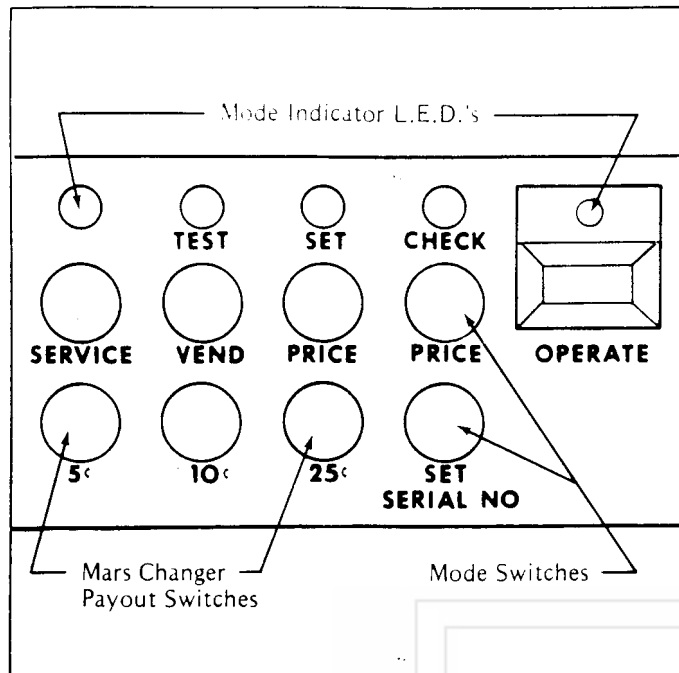
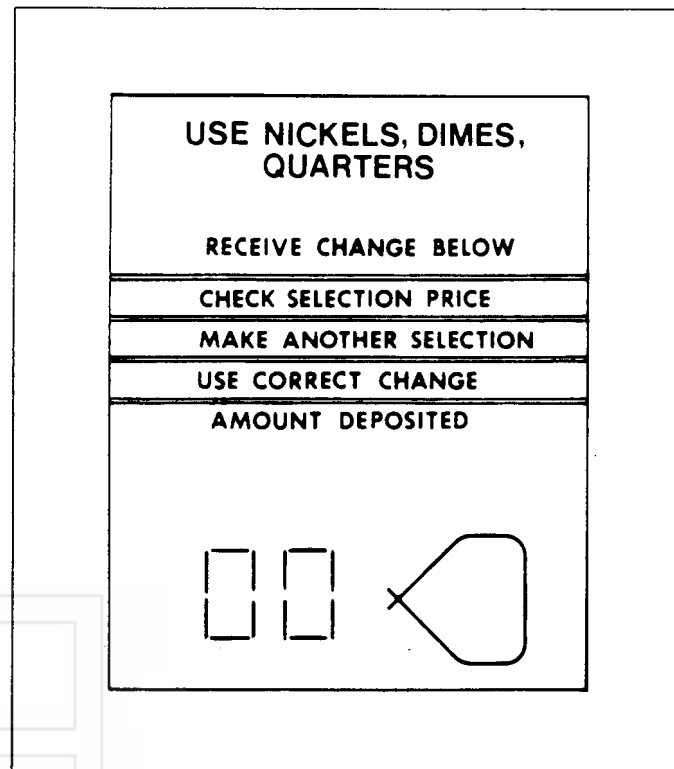
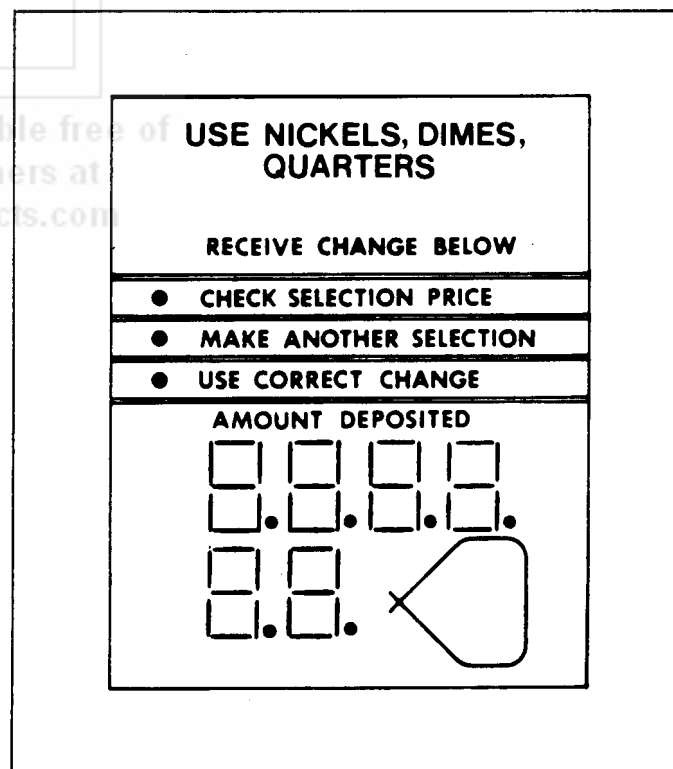

Figure 10. MODE SWITCHES.
Figure 16.
Figure 20.
The mode switch box is located on the door above the changer. It allows for control of the following machine functions: Operate mode, set price mode, check price mode, test vend mode, service mode and set serial number mode (see Figure 10).
- A. Press the "set price" button on the mode switch box (Figure 10). The L.E.D. above the set price button will light and the product code display located on the selection panel will be explained later. Any selection programmed at this reading will be removed from the operating program. This would be used when shelves are moved or the number of selections changed to remove those selections not present in the machine from the program.
- A. Press the "check price" button on the mode switch box (Figure 10). The L.E.D. above the check price button will light and the selection panel display will be blank.
- A. Press the "set price" button on the mode switch box (Figure 10). The L.E.D. above the set price button will light and the display located on the selection panel will show "00" (Figure 16). This two digit display is the product code and can be incremented up by pressing button 13 and down by pressing button 14. Increments are one. Any selection programmed at this reading will be removed from the operating program. This would be used when shelves are moved or the number of selections changed to remove those selections not present in the machine from the program.
- A. Press the "check price" button on the mode switch box (Figure 10). The L.E.D. above the check price button will light.
- A. Press the "test vend" button on the mode switch box (Figure 10). The L.E.D. above the test vend button will light and the display located on the selection panel will be blank. The machine is now ready to operate exactly under the same conditions as in the operate mode, so you will have to use money for the testing. After all servicing and testing has been made return the machine to the operate mode. The machine is now ready for normal customer usage.
- A. Press the "service" button located on the mode switch box (Figure 10). The L.E.D. above the service mode button will light and the selection panel L.E.D.'s will all light (Figure 20). This tells the service person if all L.E.D.'s are in operating condition and that the Control Board is operating.
- C. If a non-functioning motor exists, record the selection on paper and repeat step B. Continue this procedure until all non-functioning selections have been displayed, recorded and the selection panel display reads all 8's (Figure 20).